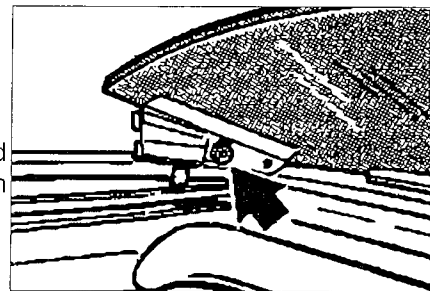

Figure 2
- Open the wind deflector and loosen the left and right side mounting nuts (Figure 2). Adjust the wind deflector in the slots so that in the closed position it has a slight preload on the seal. Furthermore, the wind deflector should be flush with closed glass sliding roof and side cover strips. The gap around the glass should be even. Tighten the fastening nuts to 5.5 Nm (4 ftlbs).